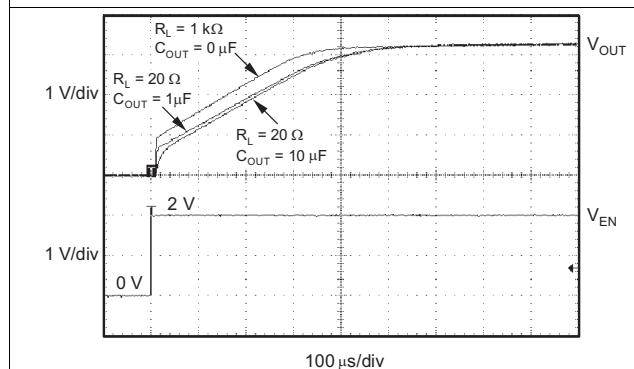

Figure 21. TPS73233 Turnon Response
The enable pin (EN) is active high and is compatible with standard TTL-CMOS levels. A VEN below 0.5 V (maximum) turns the regulator off and drops the GND pin current to approximately 10 nA. When EN is used to shut down the regulator, all charge is removed from the pass transistor gate, and the output ramps back up to a regulated VOUT (see Figure 21).